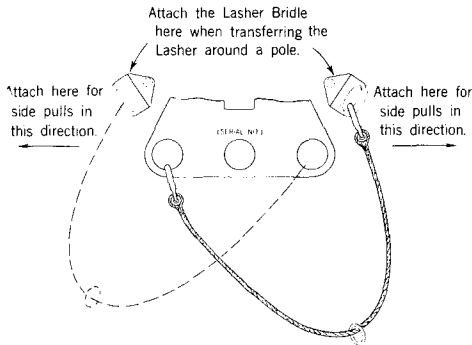

Fig. 13—Bridle Attached To Lasher
5.07 Attach the lasher bridle to the lasher as shown in Fig. 13. The tow rope is attached to the floating ring on the lasher bridle by means of a snap hook or bowline knot.
- (1) Before releasing the brake, clamp the lashing wire to the strand.
- (2) If the lasher is within reach, release the brake by pushing against the pulling plate.
- (3) If the lasher is not within reach and the lasher bridle is attached to the pulling plate, as shown in Fig. 13, release the brake by pulling back on the towing line.